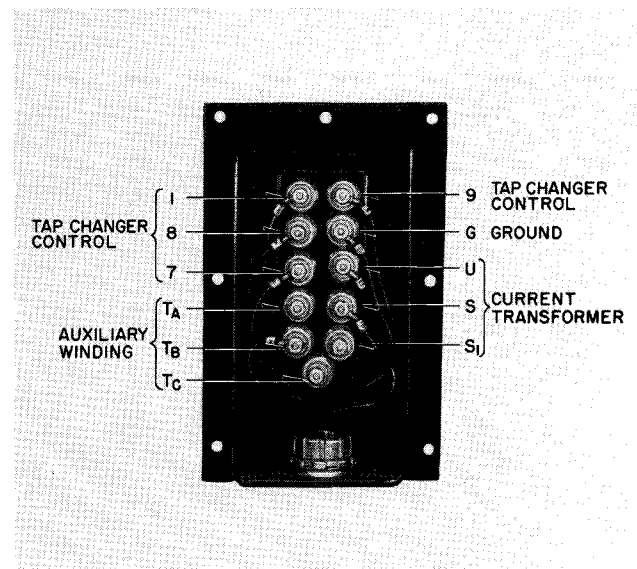

FIG. 8. Front View of Control Lead Junction Box.
5. Figure 8 shows the front view of the standard control lead junction box with the cover removed. Reference should be made to the wiring diagram received with the regulator (its number appears